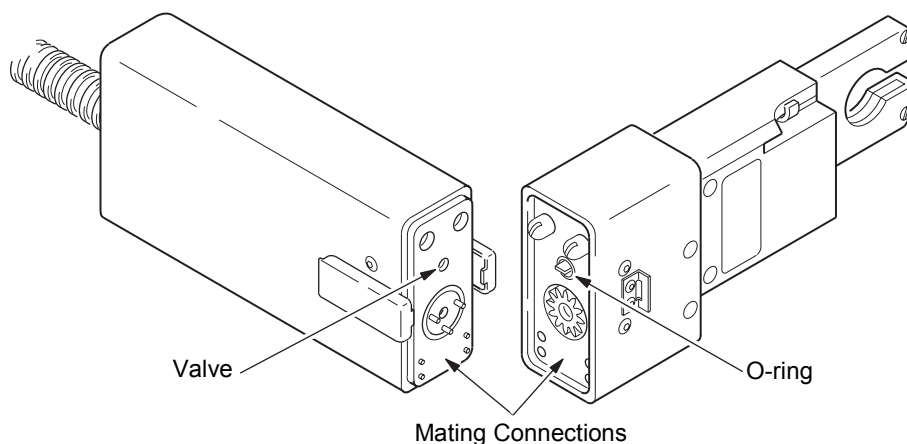

Figure 5 O-ring and Mating Connections
2. Locate the shielding gas port on the micro weld head and verify that the O-ring is in place. See Figure 5. The O-ring seals the gas port. A valve in the port opens the gas flow through the motor module. The valve opens when the micro weld head is properly connected to the motor module.
3. Align the connecting surfaces of the micro weld head and motor module. See Figure 5.
The micro weld heads should not be started in any rotor position except fully homed. See Figure 5. Arc start in any other location may cause weld head damage.